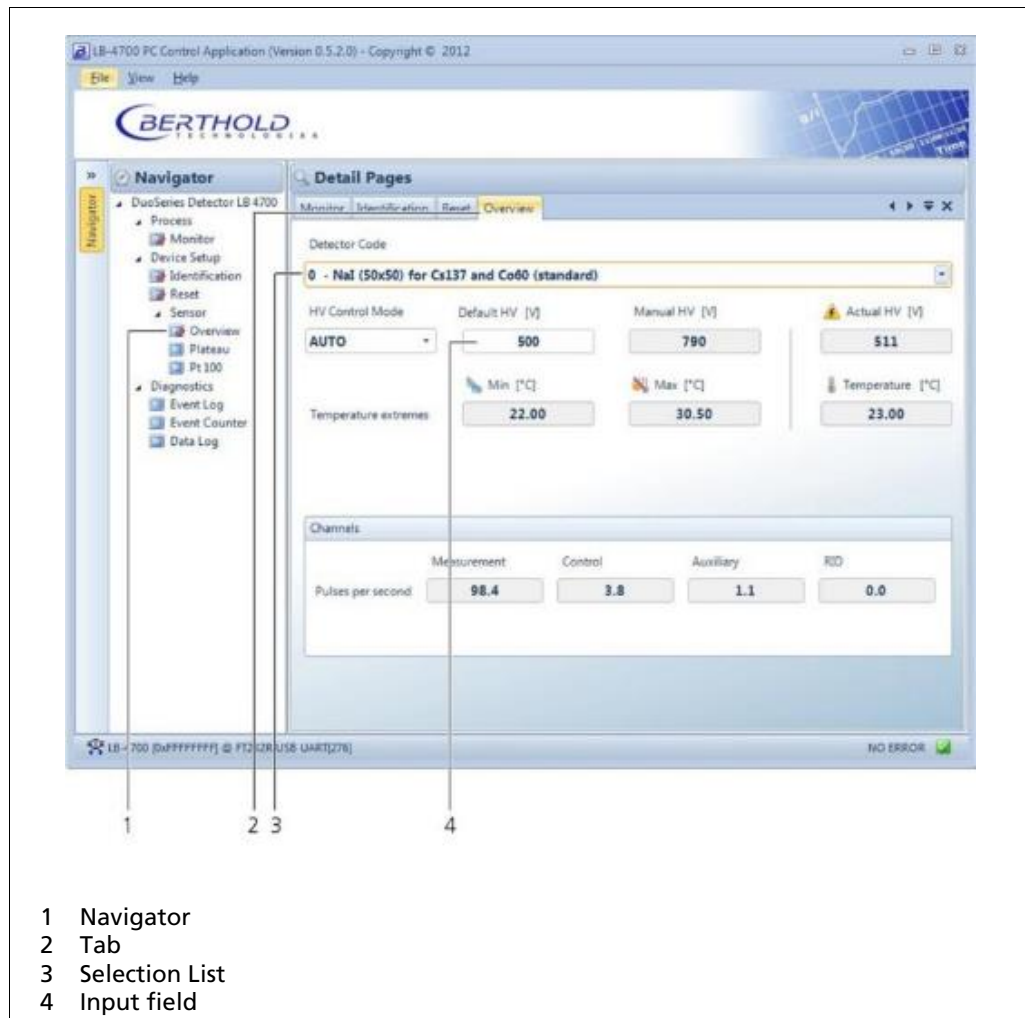

Fig. 29 User Interface of the PC Software
7. Click on the tab <USB> (Fig. 29, item 1).
8. In the selection menu (Fig. 29, item 2), select a baud rate of **1200**.
9. Click on <Connect> (Fig. 29, item 3).